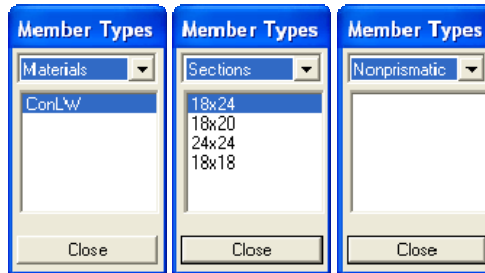

Figure 5-18 Member Types dialog box
- From the Assign menu, choose Member Types. The modeless dialog box of Figure 5-18 appears. To end member type assignment, choose the CLOSE button.